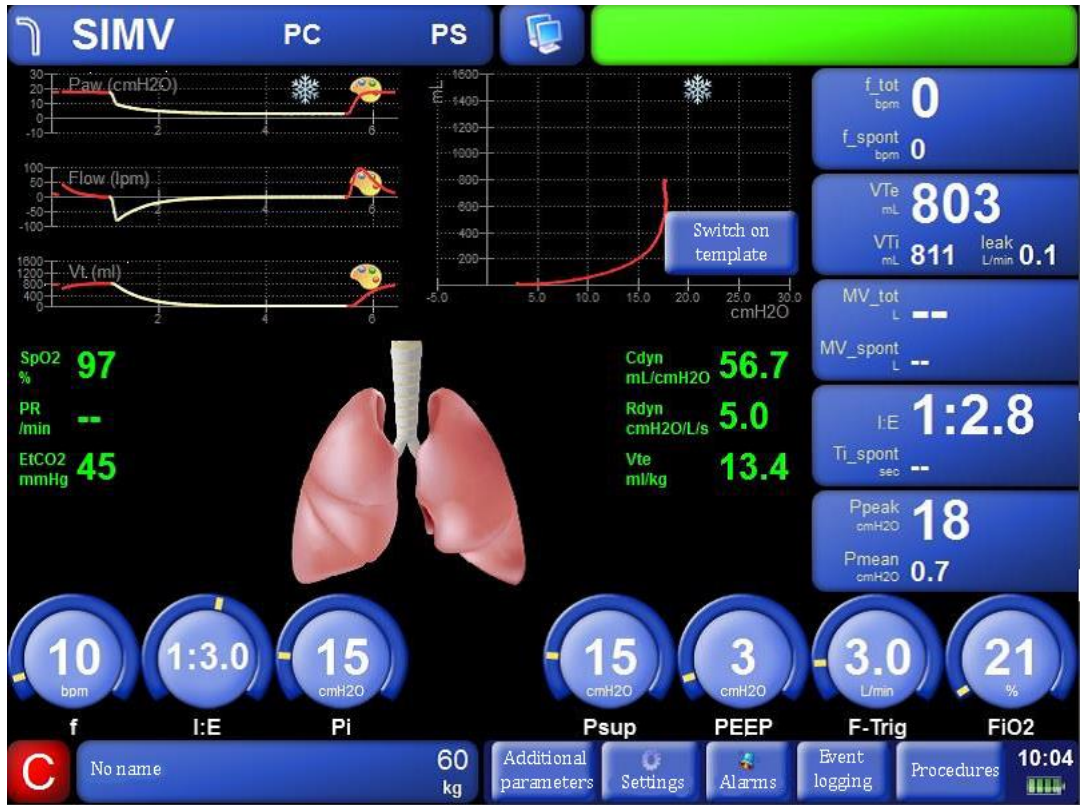

Figure 10.15 – “Multiscreen – curves, loops, lungs”
- Curves, loops, lungs (Figure 10.15),